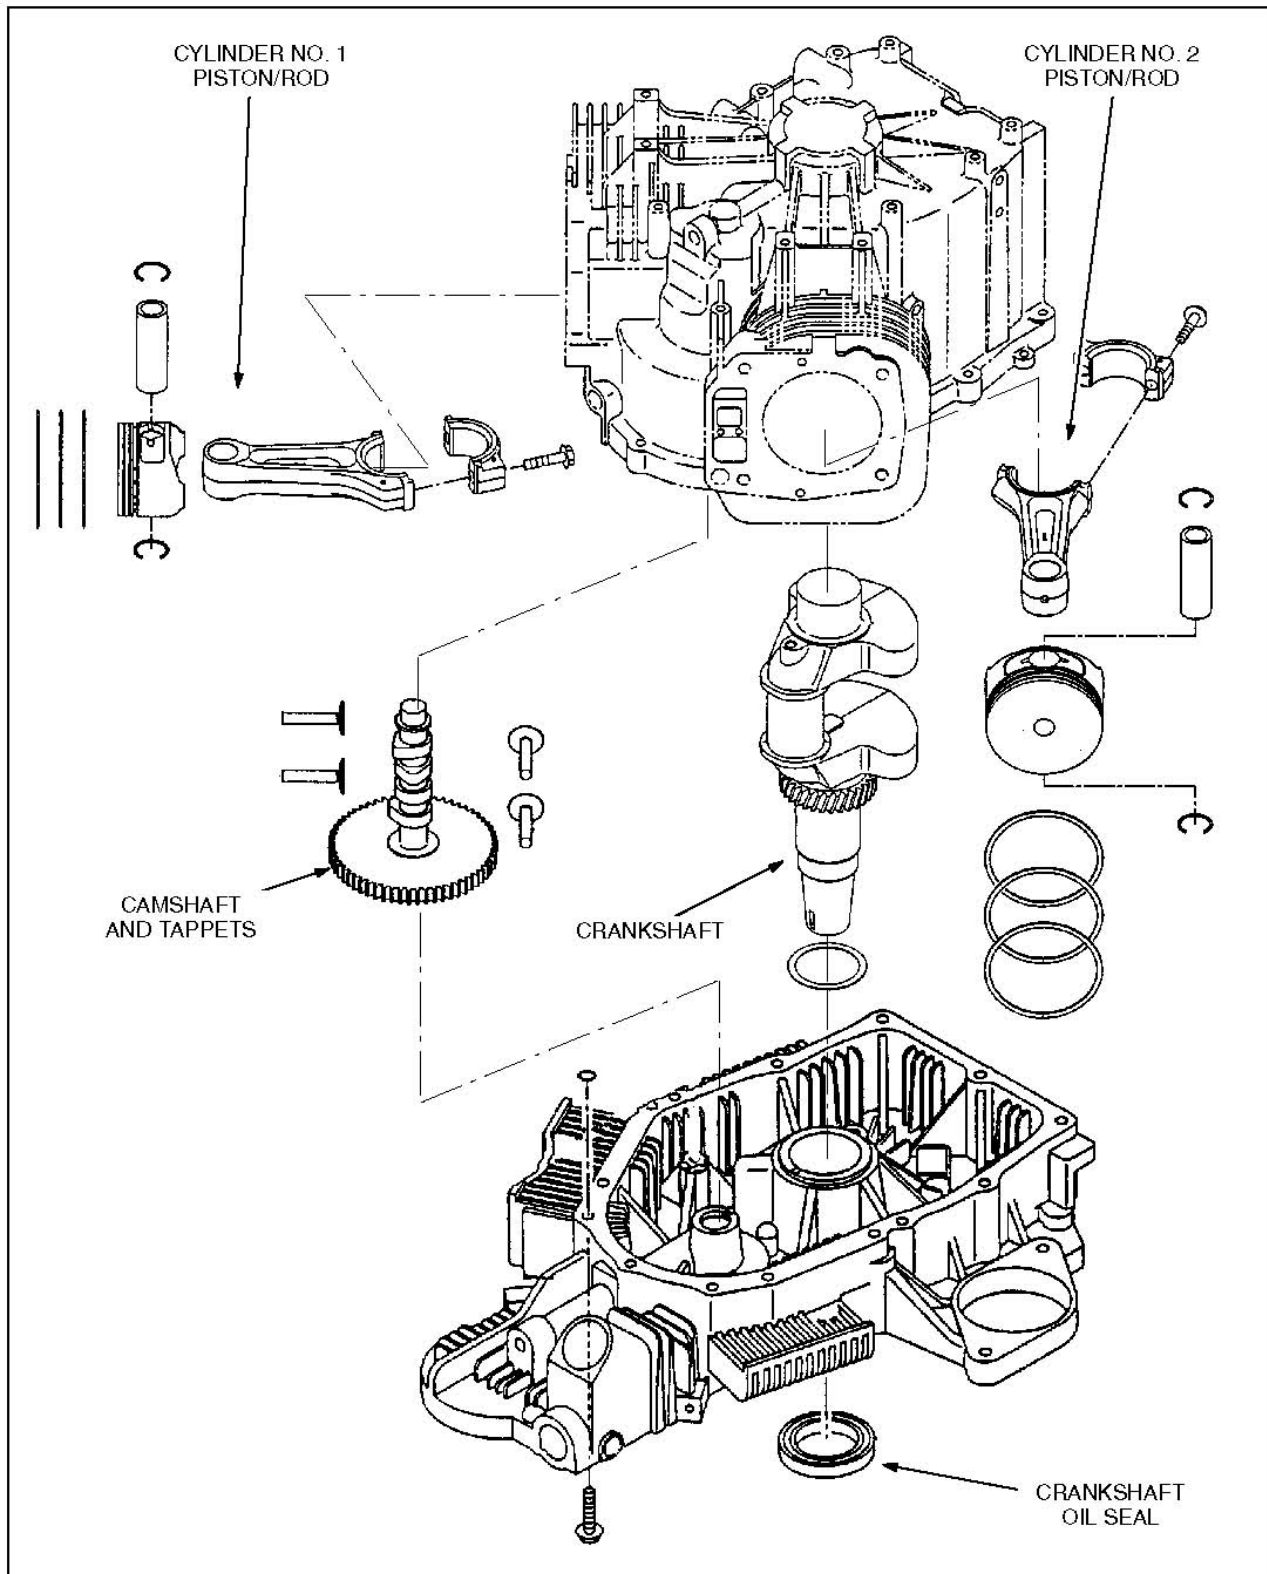

FIGURE 65. CRANKCASE ASSEMBLY
1. Before reassembling the crankcase (Figure 65), clean all parts thoroughly and check each against the Dimensions and Clearances section.